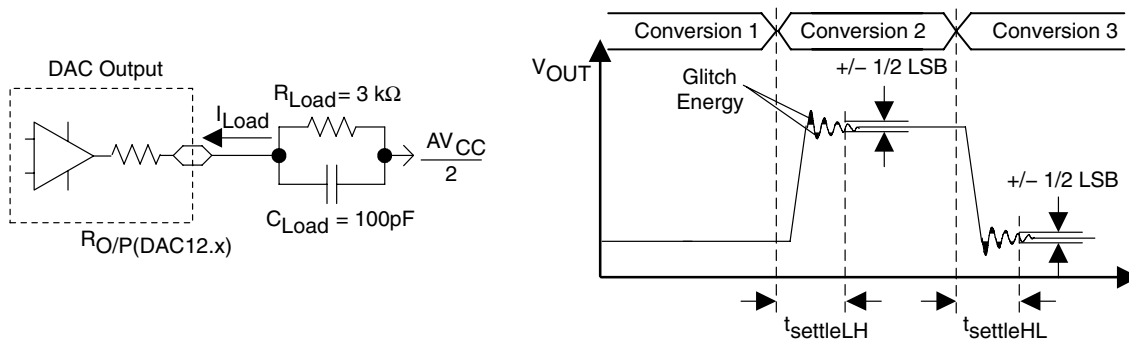
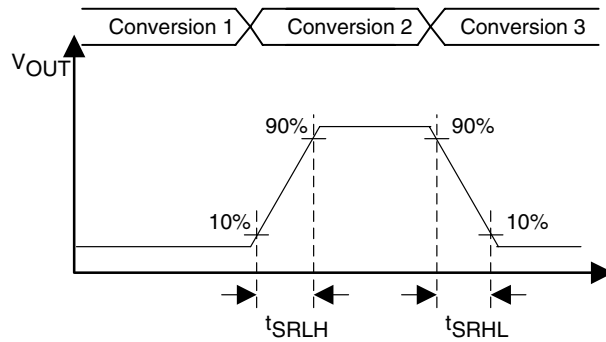

Figure 16. Settling Time and Glitch Energy Testing
Figure 17. Slew Rate Testing
## 12-bit DAC, dynamic specifications; VREF,DAC12 = AVCC, DAC12IR = 1 (see Figure 16 and Figure 17)
- NOTES: 1. RLoad and CLoad connected to AVSS (not AVCC/2) in Figure 16.